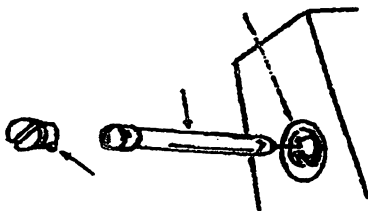

Figure 9
2. Remove Xenon Lamp by turning the lamp retainer cap one quarter turn in either direction, (See Figure 9.)